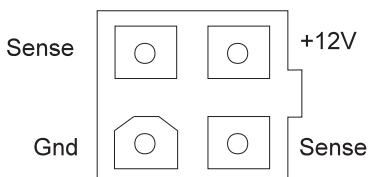

Figure 12. Power Supply Connector J2
8. On the power supply connector J2 (see Figure 12), check that the +12V signal falls between a minimum of +11.5 volts and a maximum of +12.6 volts.